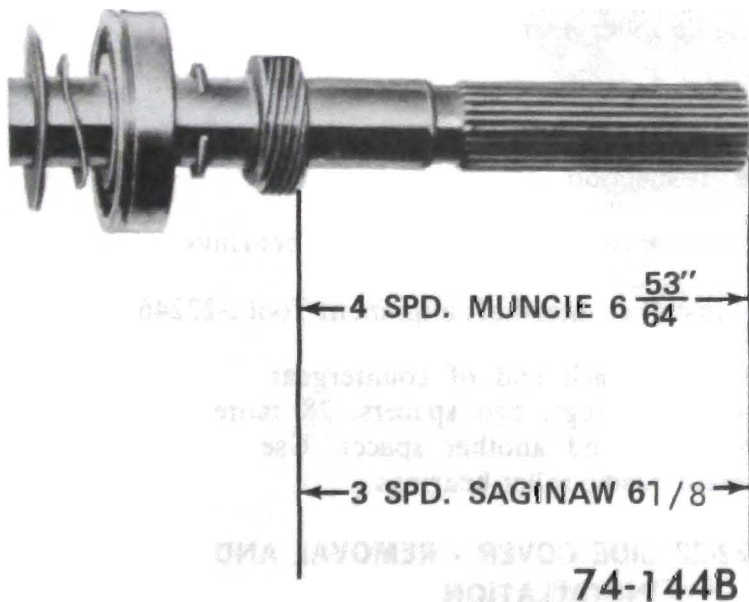

Figure 72-49 - Installing Speedometer Drive Gear
11. Install speedometer drive gear. Press to $6\text{-}53/64''$. See Figure 72-49.